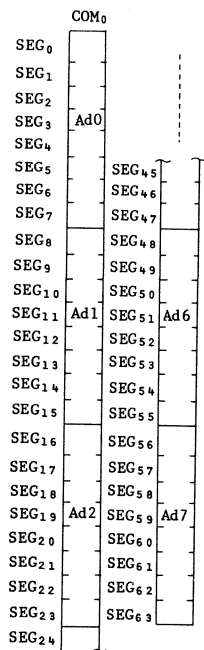
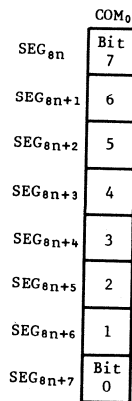

Fig. 12 Allocation of Digit (HD61603)
Fig. 13 Bit Assignment in an Adn (HD61603)
The 8-bit data is written on a digit basis into the digit address (displayed as Adn) shown in Fig. 12. When data is transferred from a microcomputer, four 4 bit data are needed to specify the digit address and an 8-bit display data. Fig. 13 shows the correspondence between each segment in an Adn and the transferred 8-bit data.
- (ii) Display data : Pattern data that is written into the display RAM as shown in Fig. 13.
(2) Bit manipulation data (Updates display on a segment basis.)